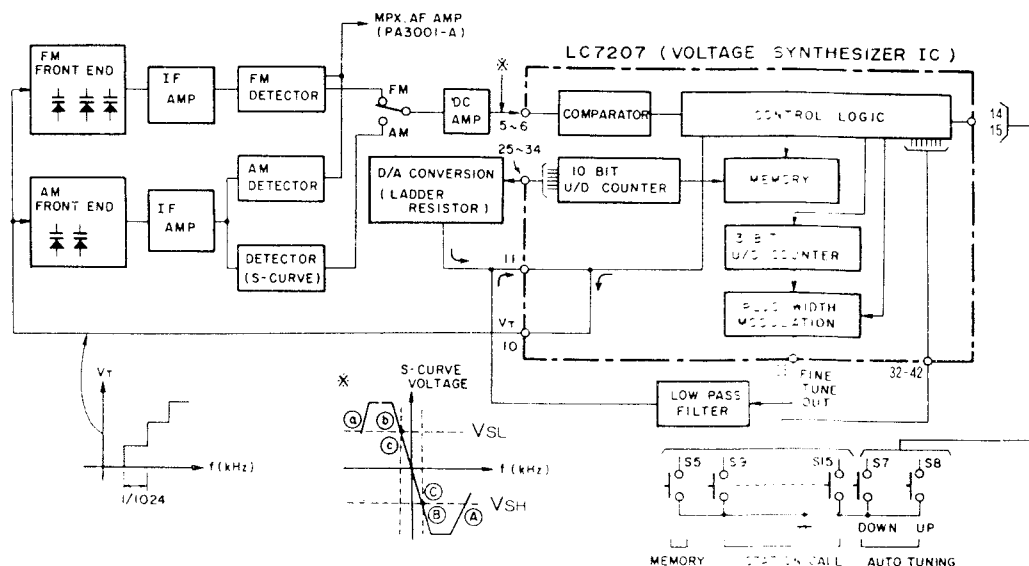

Fig. 4-4 Auto-tuning
- **Auto-Tuning (Fig 4-4)**
This V_T is progressively increased one step at a time, resulting in the tuning frequency also being increased stepwise. And when the frequency of a broadcasting station is approached, the S-curve voltage passes the V_{SL} a point as shown in Fig. 4-4. With further increases in the V_T voltage, the S-curve voltage starts to decline again, passing through point V_{SL} (b). Then with continued decrease, a counter voltage at V_{SH} (c) is encountered. After completing these 3 steps from (a) to (c), the auto-search mode is halted (rough tuning).
The AFC operation makes use of the S-curve characteristics (voltage) of the detector circuit during both FM and AM reception. In the AM circuit, a ratio detector S-curve generator circuit is used, an output being obtained with a sufficiently high enough gain from the DC amplifier (see Fig. 4-4).